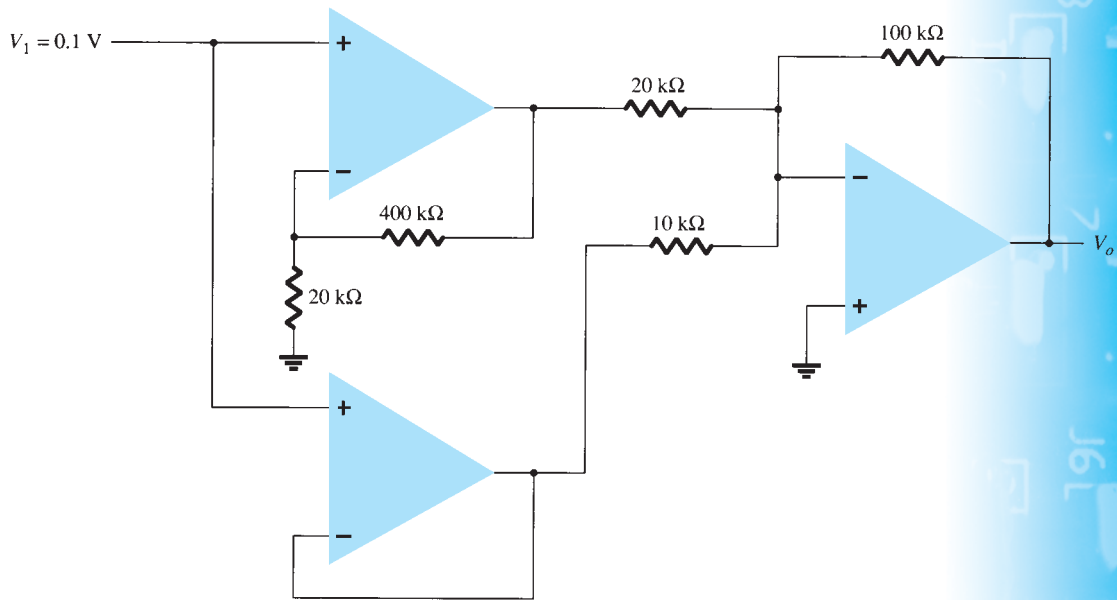

FIG. 10.73
- *29. Use Schematic Capture or Multisim to calculate the output voltage in the circuit of Fig. 10.73.